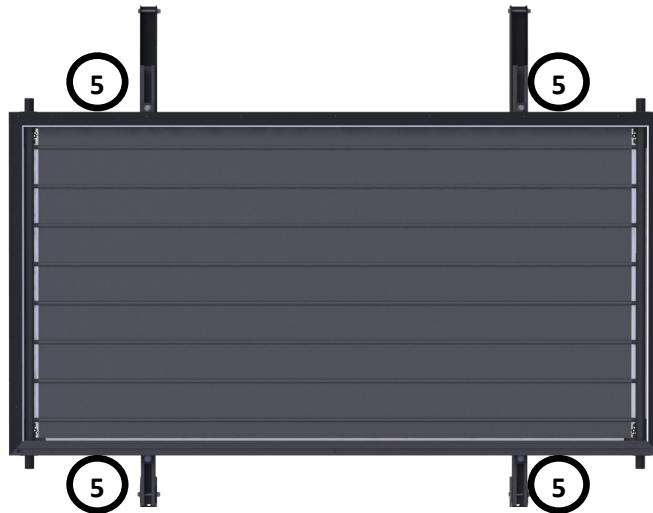

Figure 5
1. Place the Collector face up on the support strut equidistant from all edges. As shown in *Figure 5*.
2. Install four (4) C-SSN collector mounting assemblies and torque to 24 ft*lbs.